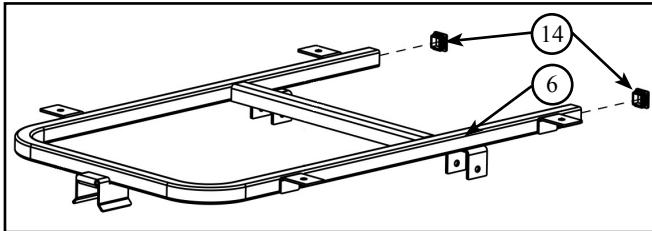

Figure 3.1 - Gas Spring Bracket
1. Insert tube plugs (14) into the ends of the bed frame tube (6) openings. Refer to Figure 3.1